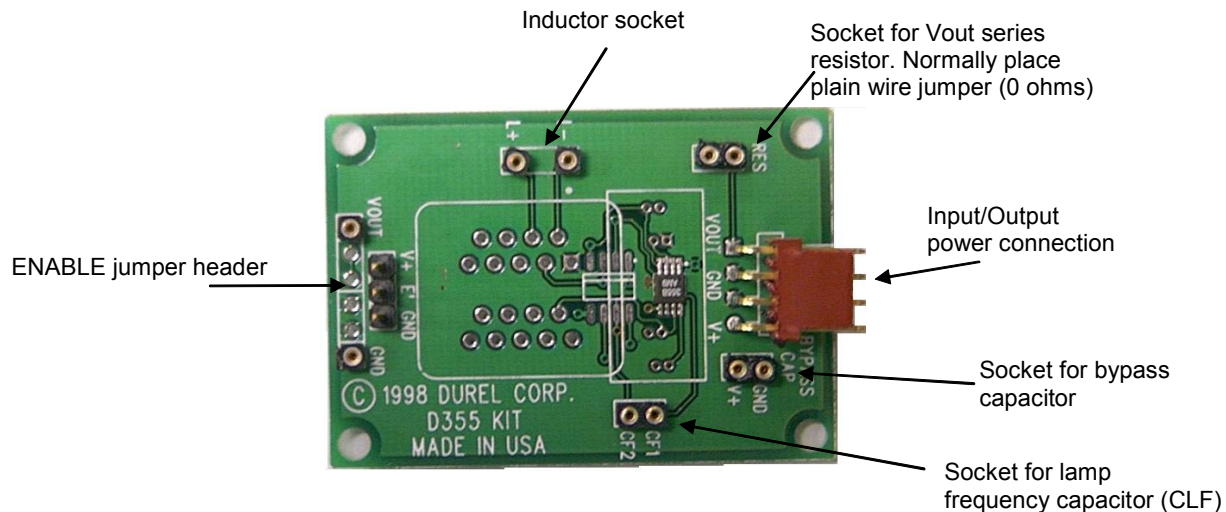

Figure 1: The D355B IC Designer's Kit Board
The Designer’s Kit Board (see Figure 1), which comes with a D355B IC already soldered to the board, is a useful tool for optimizing a D355B IC driver circuit for any application. Refer to the D355B IC datasheet as a guideline with sample circuits as a starting point of your design. Simply insert an appropriate value of inductor (L) and timing capacitors (CLF) into the labeled sockets, as shown in Figure 1. Additional sockets are provided in the Kit Board for a bypass capacitor between V+ and ground (GND) to absorb electrical noise in the DC input, and optional series resistor to the lamp output to filter electrical noise feedback to the IC through the Vout pin, if required.